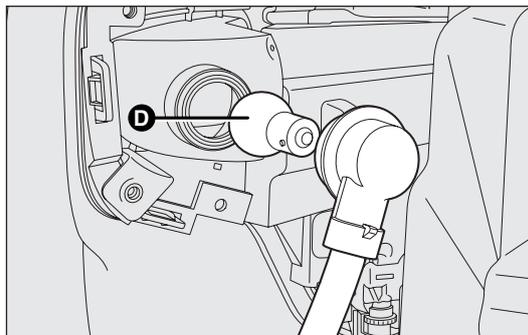

fig. 165
- remove the bulb D-fig. 165 by pushing it in gently and turning anti-clockwise (“bayonet” clamping), then replace it;